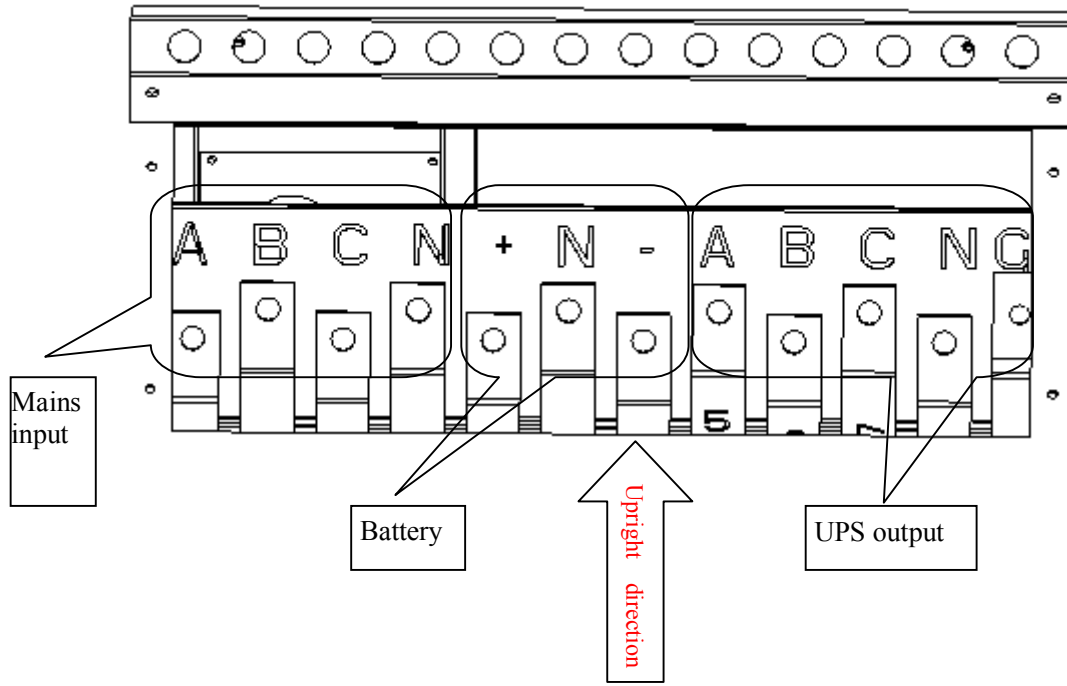

Fig.6.5
3. Connect the input and output wires of the UPS and the battery cables to the corresponding copper bars according to the marks ( the copper bar mark is shown as Fig. 6.5 ) .